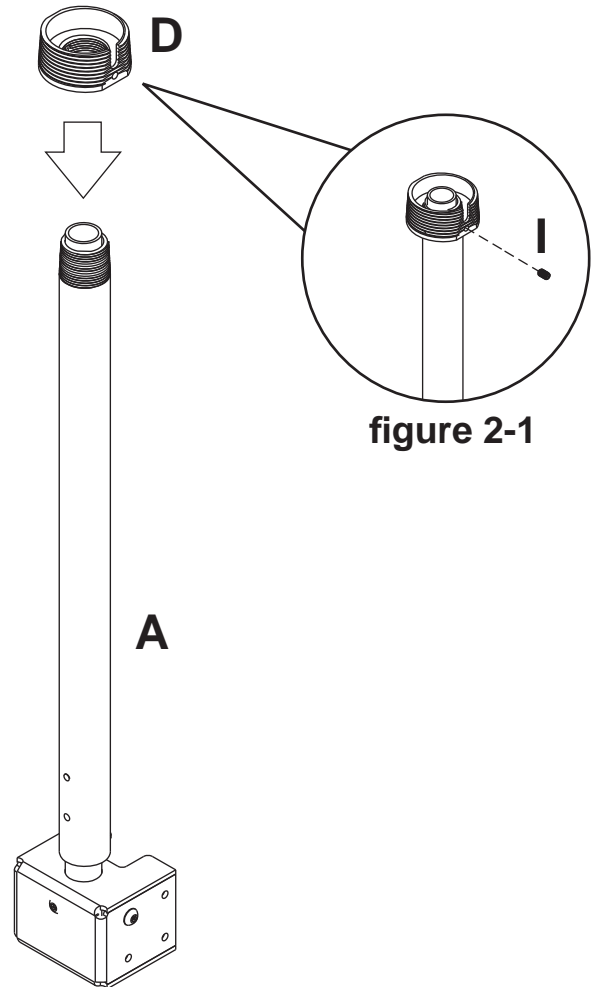

figure 2-1
- 2** Thread reducer (**D**) onto tube assembly (**A**) until tight. Insert set screw (**I**) into reducer as shown in figure 2-1. Tighten screw using hex wrench (**J**). **Note:** Set screw (**I**) is used to jam against the threads of tube assembly to prevent any excess movement.